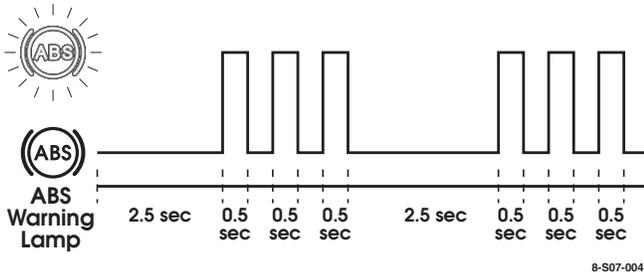

Figure 7-46: Blink Code Sequence For Code 3.3.
4. The *first part* of the code number (Figure 7-46): A pause of 2.5 seconds precedes a series of short flashes. Count the flashes until the next long pause occurs. The number of short flashes obtained is the first part of the code number.